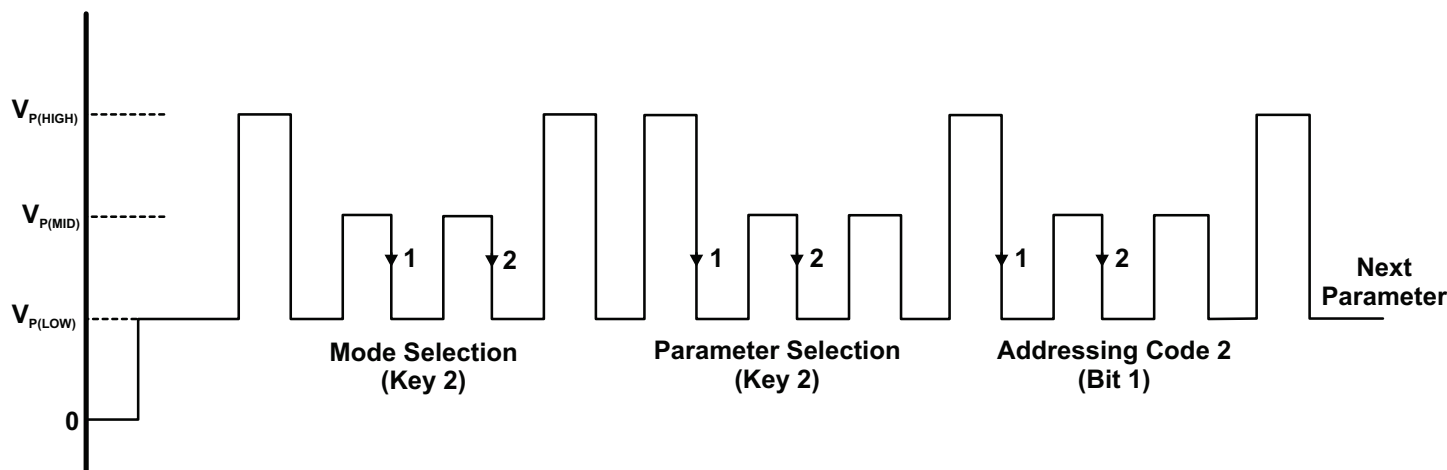

Figure 11: Example of Try Mode Programming Pulses Applied to the VOUT Pin.
After powering the V_{CC} supply, select mode key 1, the desired parameter register, and address its bit field. When addressing the bit field, each V_{PM} pulse increments the value of the parameter register up to the maximum possible code (see Programming Logic section). The addressed parameter value will be stored in the device even after the programming drive voltage is removed from the VOUT pin, allowing its value to be measured. To test an additional programmable parameter in conjunction with the original, enter an additional V_{PH} pulse on the VOUT pin to re-enter the parameter selection field. Select a different parameter register, and address its bit field without any supply interruptions. Both parameter values will be stored and can be measured after removing the programming drive voltage. Multiple programming combinations can be tested to achieve optimal application accuracy. See Figure 11 for an example of the Try mode pulse train.